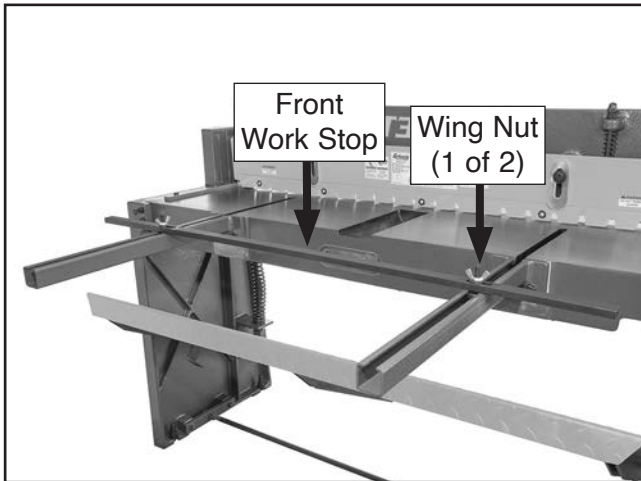

Figure 20. Location of front work stop wing nuts.
1. Loosen (2) front work stop wing nuts (see **Figure 20**).